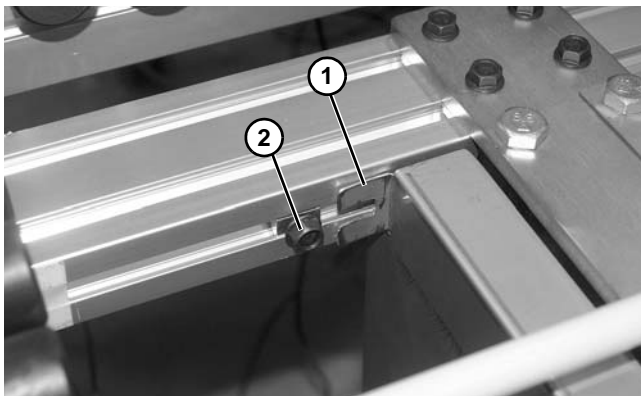
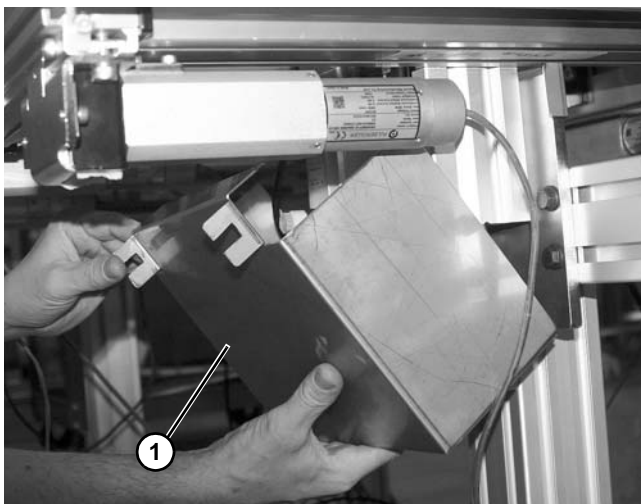

Figure 40
Figure 41
3. Remove slotted tab (Figure 40, item 1) from screw (Figure 40, item 2) on each side. Lower cylinder guard (Figure 41, item 1) from around cylinder assembly.